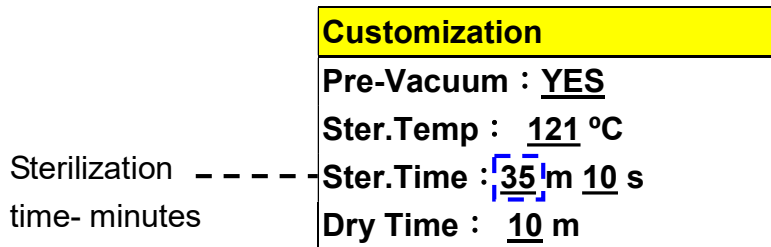

Figure 84
- Press  button to store sterilization time parameter as shown in Figure 84.